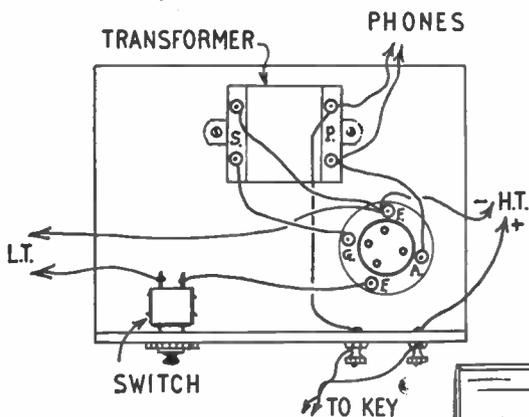

Fig. 1—Wiring plan
**A** KNOWLEDGE of the Morse code is useful in various boys' group activities or for signalling with friends. It may also be studied in order to pass the G.P.O. transmitting licence examination, or for interest only, in reading amateur, shipping, and other code signals. A buzzer is often used for Morse practice, but has the disadvantage that the note does not resemble that of radio signals. This can be overcome by using a valve oscillator, with headphones, and Fig. 1 shows a very simple circuit which is perfectly satisfactory.